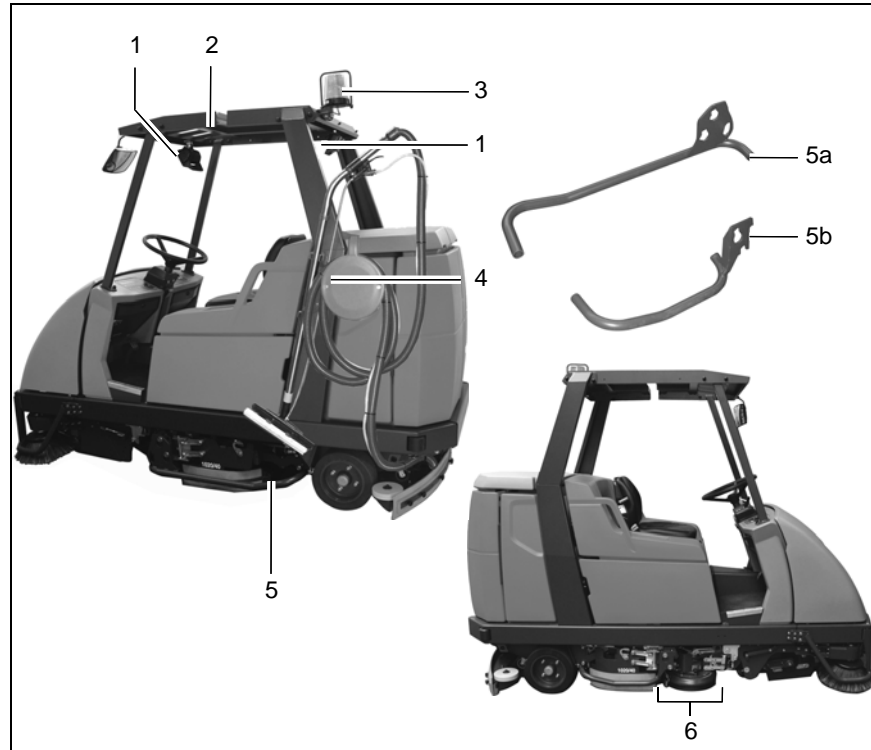

Fig. 16
- **Working lights (Fig. 16/1)** (7584.02)
- **Cab safety roof (Fig. 16/2)** (7582)
- **Flashing beacon (Fig. 16/3)** (7585.02 Assembly on cab safety roof) (7585.10 Assembly on pole / without cab safety roof)
- **Spraying/Vacuumping tool (Fig. 16/4)**
- **Hand-held vacuum cleaner (Fig. 16/4)**
- **Side collision protection (Fig. 16/5)**
- **Side brush collision protection (Fig. 16/6)**
- **Side scrubbing unit (Fig. 16/7)**